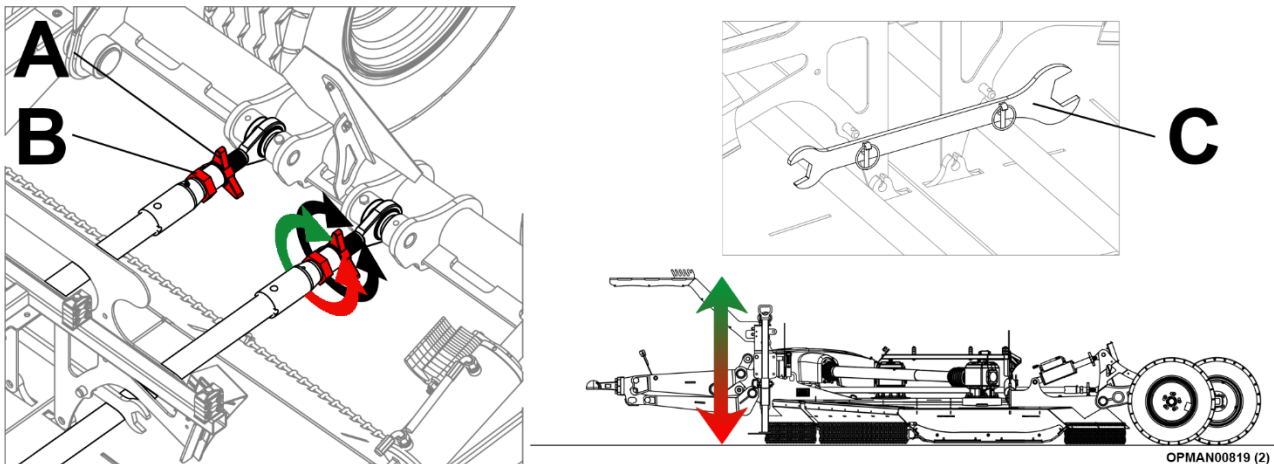

Figure 4.20 – Stubble Master Front To Rear Machine Levelling
- 4.7.1.3 Loosen the locking nut; see Figure 4.20 (A).
- 4.7.1.4 Turn the barrel; see Figure 4.20 (B) utilising the spanner provided with the machine found on the rear of the hose mount; see Figure 4.20 (C), turning anticlockwise to raise the front of the machine and clockwise to lower the front of the machine. The machine should be set at **12.5mm – 25mm (1/2" to 1") higher at the front of the machine to the rear.**
- 4.7.1.5 Once set at the correct height tighten the locking nut again; see Figure 4.20 (A).